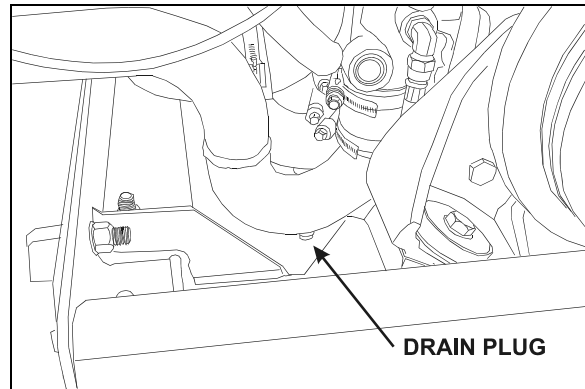

FIGURE 11: WATER PUMP DRAIN PLUG
3. Unscrew the water pump housing inlet line drain plug (Fig. 11).